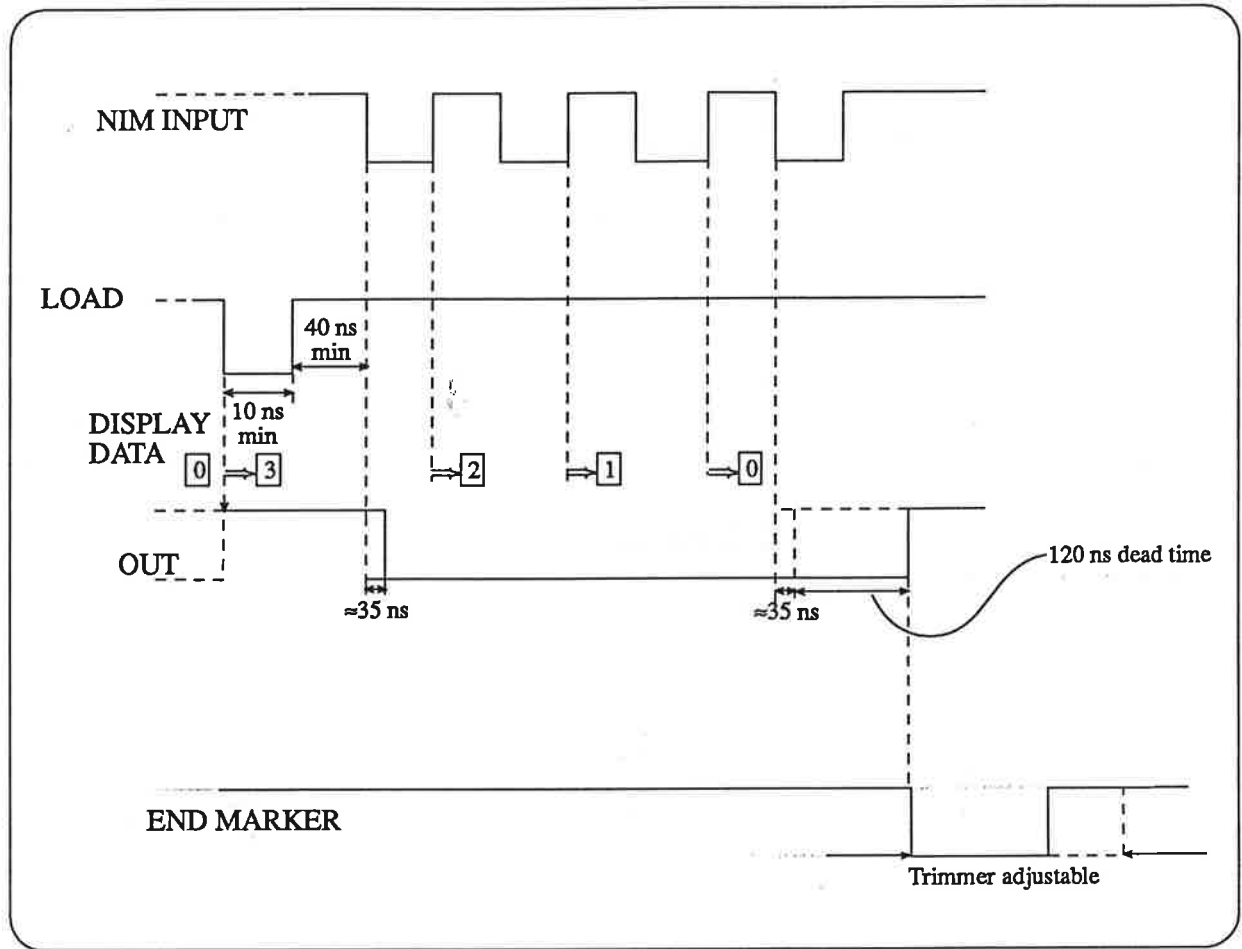

Figure 1: Section 5 - Timing Diagram
OUT	2, NIM outputs, these are true 2 as long as counter contents are different from zero. (see also Figure 1: Timing Diagram)).
*Refer also to figure 1*